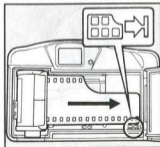

Fig.6 Abb.6 1.6
2. Load the film cassette into the Film Chamber and pull out enough film leader to extend past the Film Leader Mark. (Fig. 6)